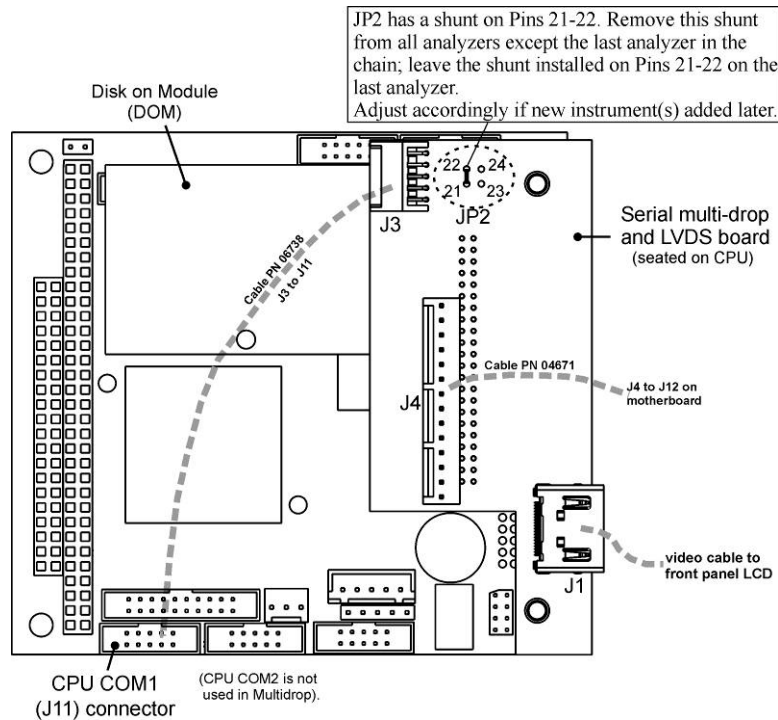

Figure 6-3. Jumper and Cables for Multidrop Mode
In each instrument with the Multidrop option there is a shunt jumpering two pins on the serial Multidrop and LVDS printed circuit assembly (PCA), as shown in Figure 6-3. This shunt must be removed from all instruments except that designated as last in the multidrop chain, which must remain terminated. This requires powering off and opening each instrument and making the following adjustments:
2. On the Multidrop/LVDS PCA's JP2 connector, remove the shunt that jumpers Pins 21 ↔ 22 as indicated in Figure 6-3 (Do this for all but the last instrument in the chain where the shunt should remain at Pins 21 ↔ 22).
3. Check that the following cable connections are made in *all* instruments (again refer to Figure 6-3):